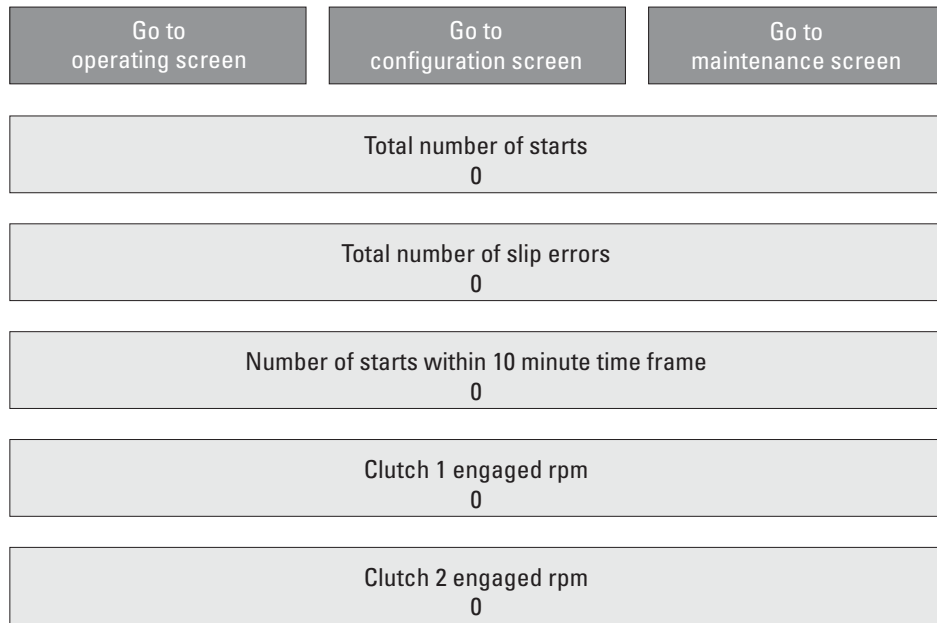

Figure 7
4.2.3 When the ENERGIZE VALVES pushbutton is pressed, the VALVES ENERGIZED indicating light will flash until the prestart delay is over. When the prestart delay is over, the clutch will start to engage and the indicating light will stay on solid. The background of the ENERGIZE VALVES pushbutton on the operating screen of the HMI will flash according to the number of starts that have been performed or attempted in a 10 minute time frame. This is to let the user know if they are about to reach the maximum allowable start limit. The number of starts that have been accumulated in the 10 minute time frame can also be seen on the history screen of the HMI. Refer to Figure 7 for the layout of the history screen of the HMI and the information available. Also refer to section 3.1.1, item (g) for additional description of the cool down timer
5.5.1 Various operating and historical information is available on the history screen of the HMI. Refer to Figure 7 for the layout of the history screen and the information available. The number of starts, and number of slip errors is retained data. This data will be retained through a reboot. The other data on the history screen is not retained.